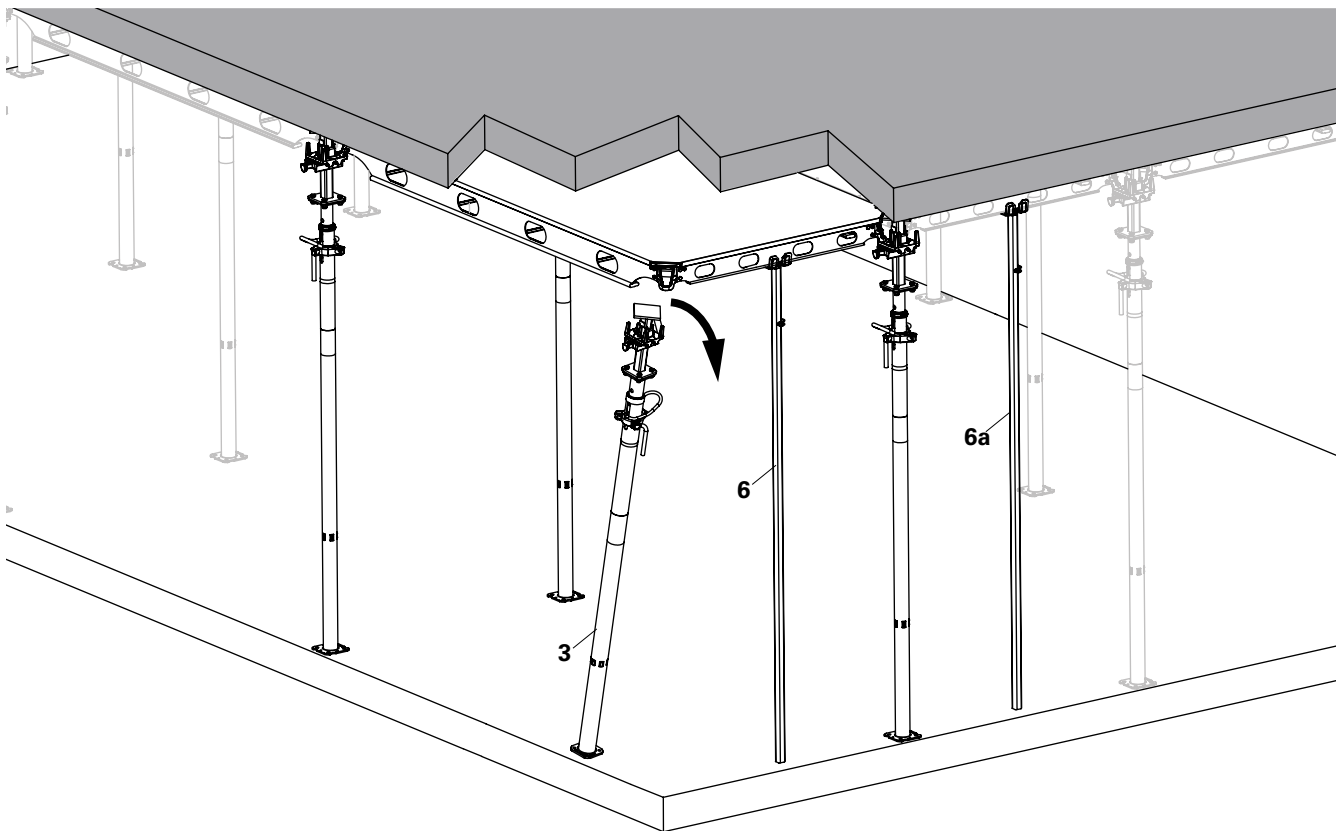

Fig. A11.07
1. Support the panel edge at the middle using two shuttering aids (**6**) and (**6a**) in the shorter direction for the first two bays. (Fig. A11.07)
- Always secure panels that are not held in place by four slab props with a shuttering aid. (Fig. A11.07)